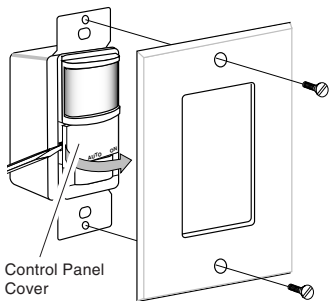

Figure 2 - Removing Control Panel Cover
2. Press in with screwdriver as shown in Figure 2. Swing control panel cover out to remove.